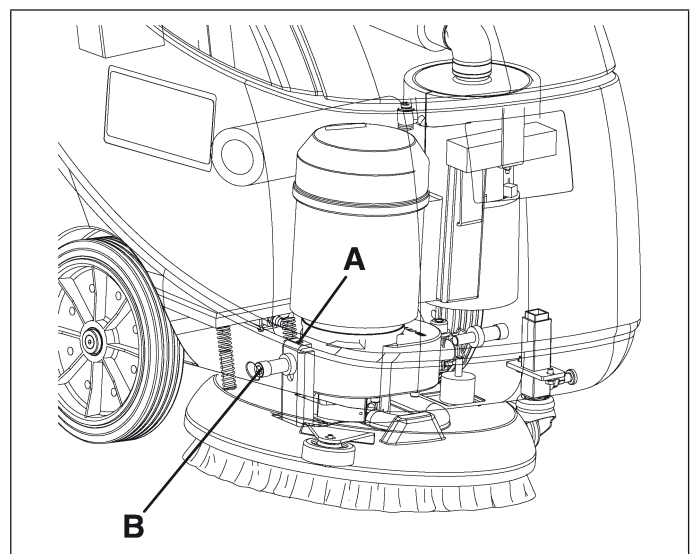

Figure 21
2. Adjust the machine speed by means of the screw (A, Fig. 21), according to the following procedure:
- Loosen the screw (B, Fig. 21) on the right side of the machine, by turning it counter-clockwise.
- Turn the adjusting screw (A, Fig. 21) counter-clockwise to increase the machine speed.
- Turn the adjusting screw (A, Fig. 21) clockwise to decrease the machine speed.
- After adjusting, tighten the screw (B, Fig. 21).